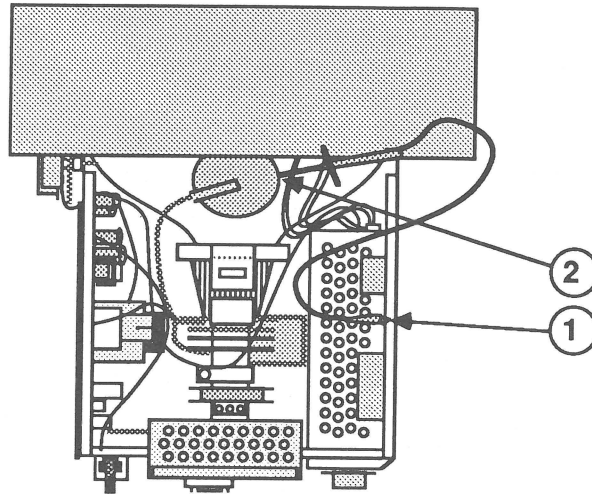

FIGURE 5
4. Attach the clip of the CRT discharge tool to any metal part of the chassis (Figure 5, #1).
6. Hold the CRT discharge tool to the tube surface, and insert its probe under the anode cap (Figure 5, #2) until the probe touches the anode ring.